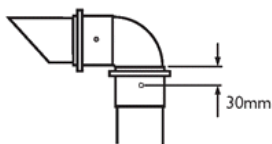

Fig. 21L
13. Mark and drill the 60Ø exhaust, using a 2mm bit, as shown in Fig. 21l. Complete the installation of the 60Ø exhaust, securing in the brackets.